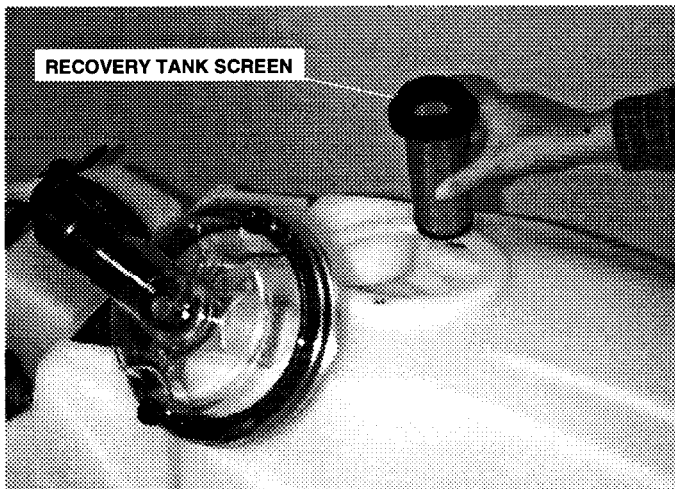

Fig. 18
2. Clean recovery tank screen. You can remove whole screen/ball float to clean it. (Figure 18)